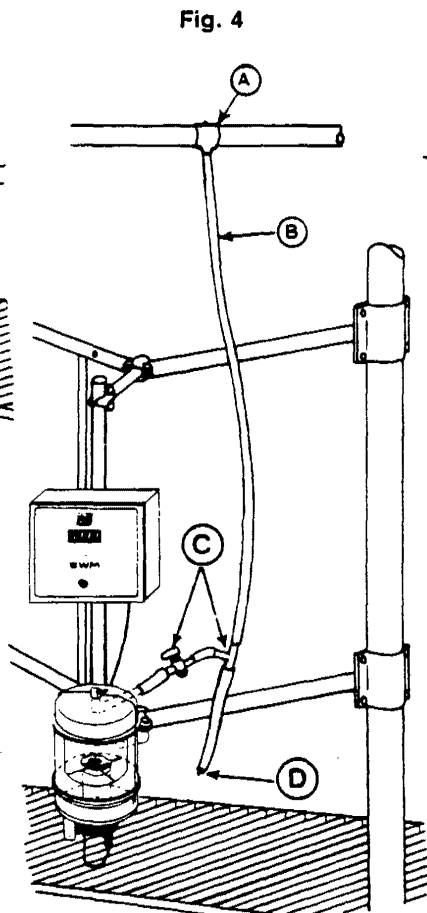

Fig. 4
- If C.I.P. washer is not used, install a clamp-on-nipple on the underside of a sanitary wash line to the immediate right of the Flo-Meter. (See A, Fig. 4) Attach to the nipple a $\frac{5}{8}$ " ID hose of sufficient length to reach milk inlet on Flo-Meter. (See B, Fig. 4)
- Install the 711012 valve and 256946 plastic tee in this line as described above. (See C, Fig. 4)
- Open 711012 valve for washing and connect line D to milk inlet of Meter. (Fig. 4)
- Insert a 420530 plug in end of hose while milking. (See D, Fig. 4)
2. **If C.I.P. washers are not used**, attach the milker unit hose to the milk inlet of the meter. Insert a 420530 plug in the end of the hose while milking. (See D, Fig. 4)